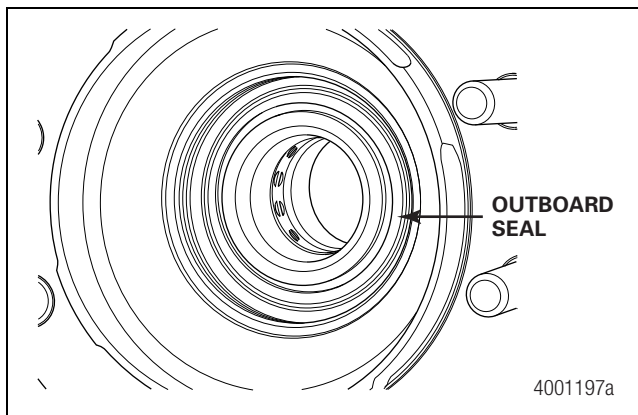
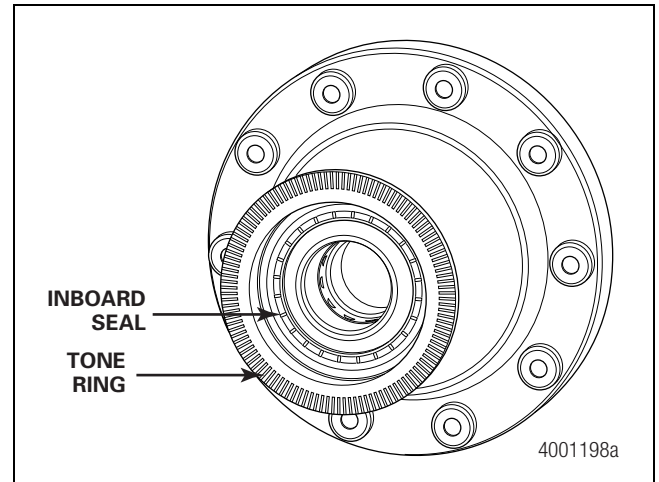

Figure 3.14
Figure 3.15
- A. There is no visible damage to the inboard or outboard seals and the bearings have not become unseated. Figure 3.14 and Figure 3.15.
- B. The tone ring teeth are not damaged and there are no broken or missing teeth on the tone ring. Figure 3.15.